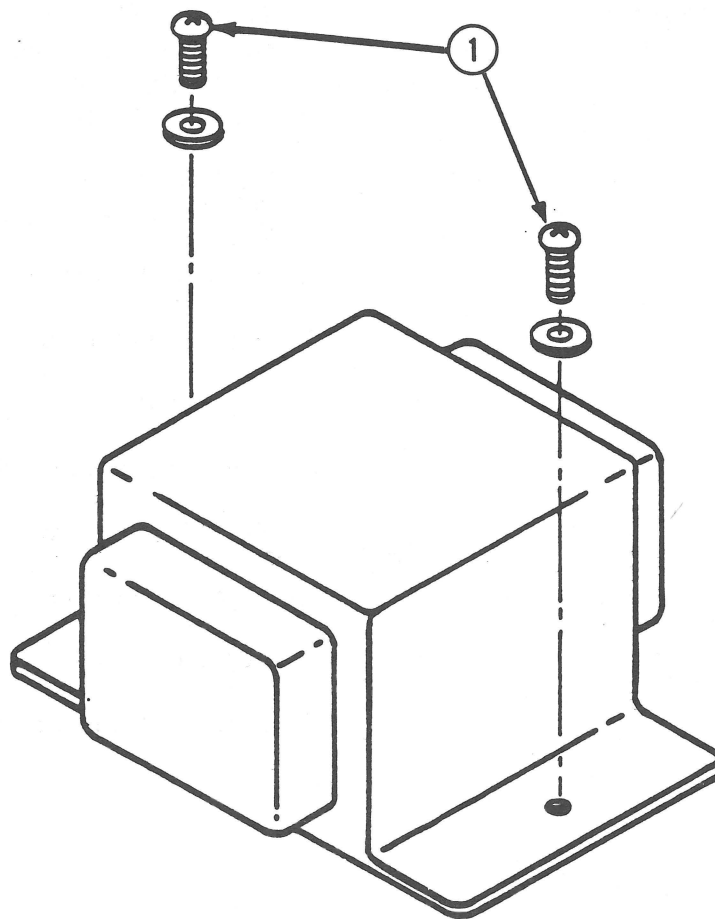

FIGURE 37
2. Remove the two screws (Figure 37, #1) from the transformer.